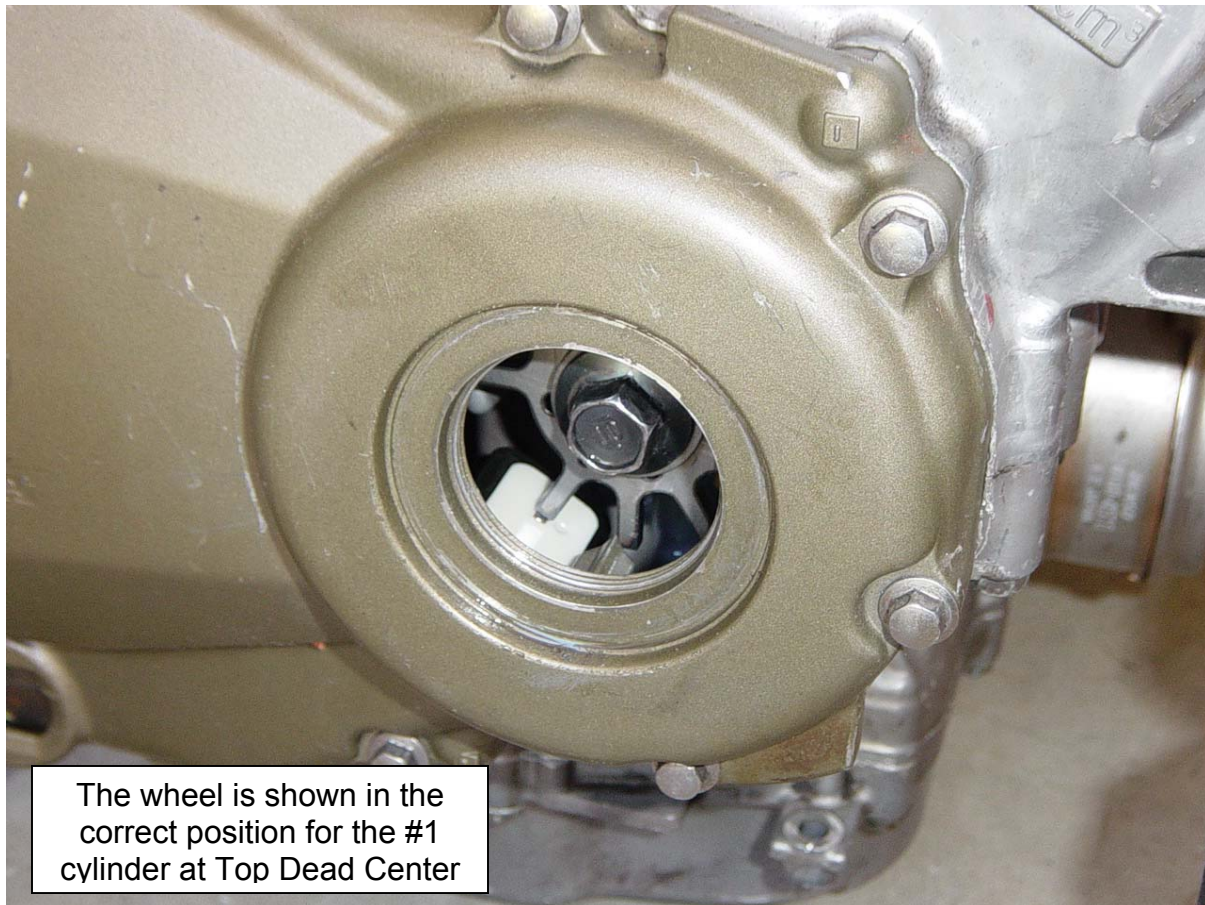

Figure 2 – Installation of PE-ECU-1 Trigger Wheel in F4/F4I Engine
Performance Electronics, Ltd. (PE) can supply one of several different sized trigger wheels for different applications (a wheel is included with the system). For most Honda motorcycles, including the F4 and F4I, the 2.4" diameter wheel fits nicely under the side cover in place of the stock trigger wheel (Figure 2). The PE supplied trigger wheel installs in place of the stock wheel without any modifications. Drawings for the trigger wheels can be downloaded from the PE web site.